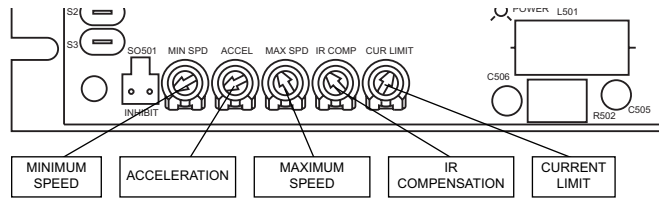

Figure 10. Calibration Trimpot Layout
All adjustments increase with clockwise rotation (CW), and decrease with counter-clockwise rotation (CCW). Use a non-metallic screwdriver for calibration. Each trimpot is identified on the printed circuit board (see Figure 10).